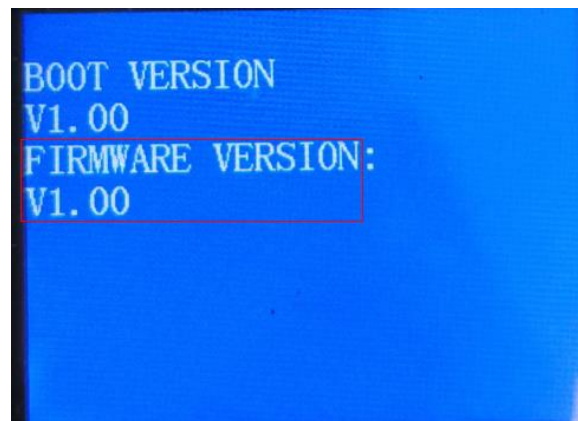

Figure 3: firmware version
3. You can see the Security Firmware version, as Figure 3